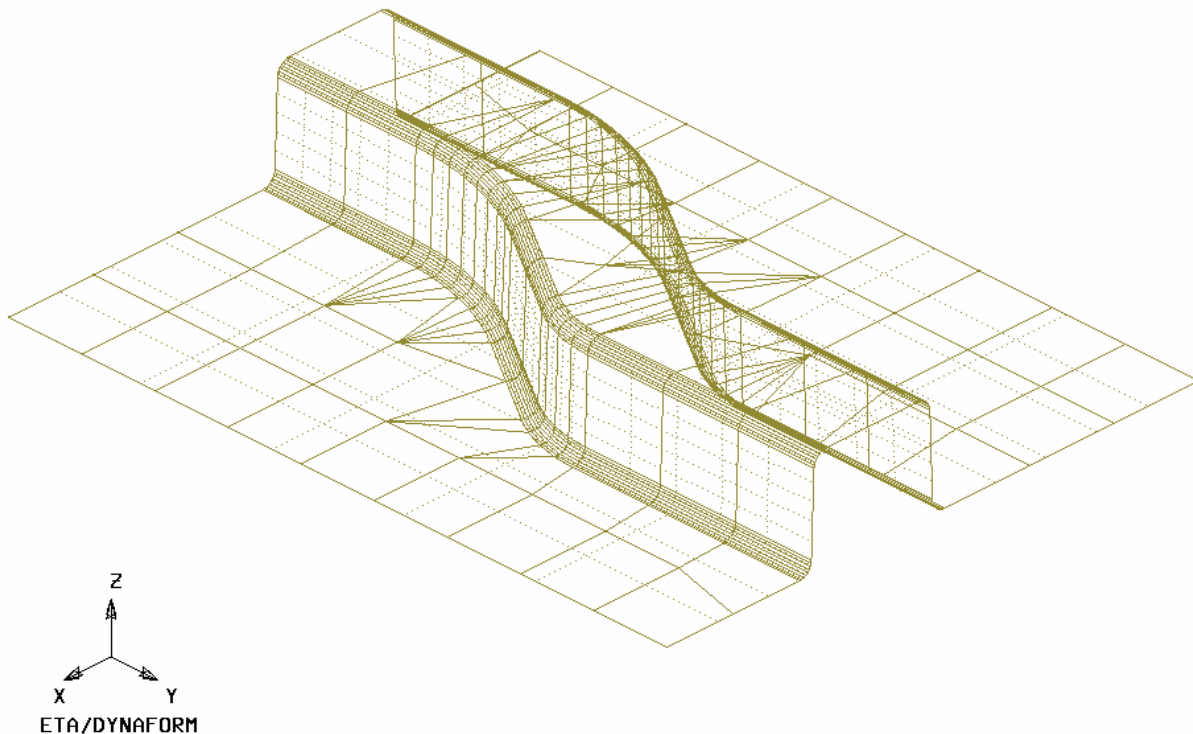

Figure 30: Tool mesh
8. The mesh will be created and will be displayed in white. To accept the mesh, click the **Yes** button when prompted, “**Accept Mesh?**” in the **Surface Mesh** dialog box. Compare your mesh with the mesh displayed in Figure 30.